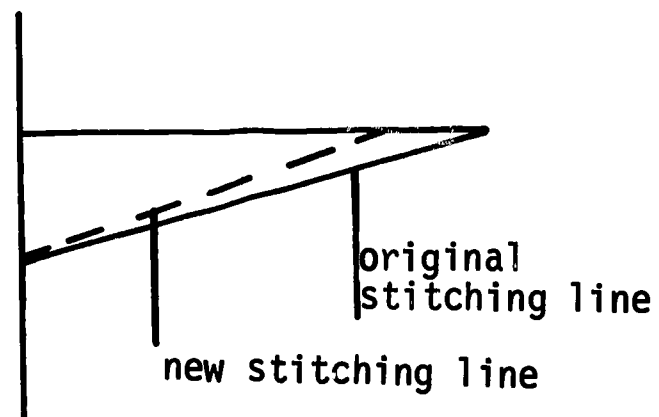

Figure 33.
5. To shorten a dart, mark the point at which the dart should end (see Figure 33). Make a chalk line slanting from the original stitching to the new point.